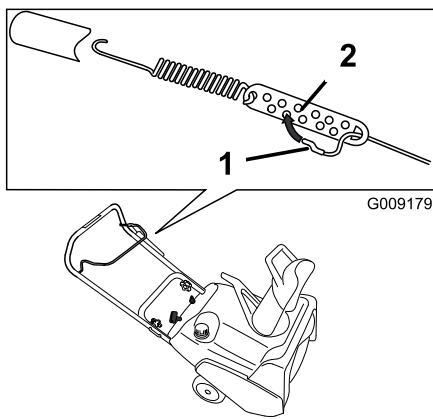

Figure 22
2. Move the Z-fitting to a higher or lower hole on the adjuster link as needed to obtain the 1/16 to 1/8 inch (2 to 3 mm) gap between the control bar and the handle (Figure 22).